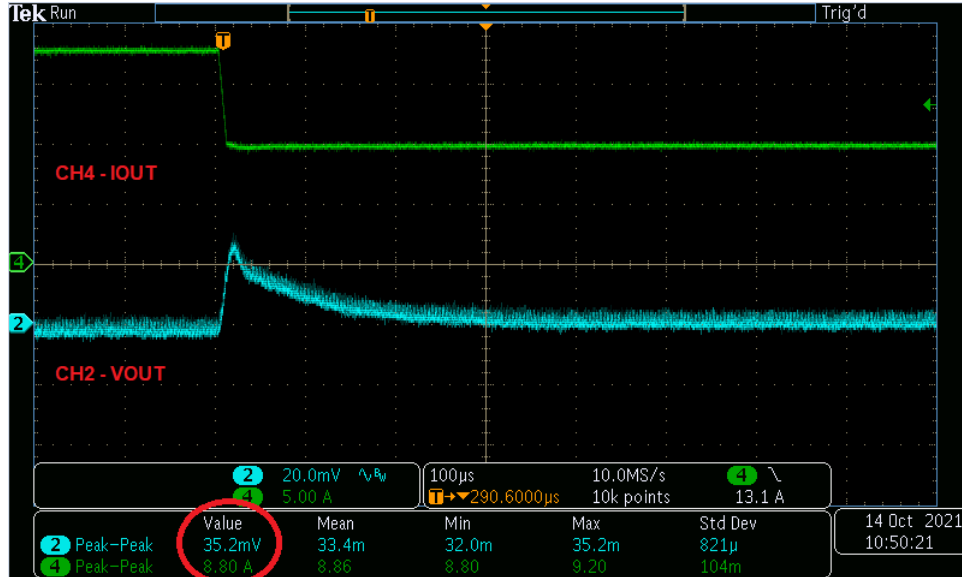

Figure 4-5. Transient Response to Load Step 18 A to 9 A at 1 A/μs
- Change the trigger on CH4 to falling edge to capture the transient response of VOUT to negative current step from 18 A to 9 A as shown in Figure 4-5.